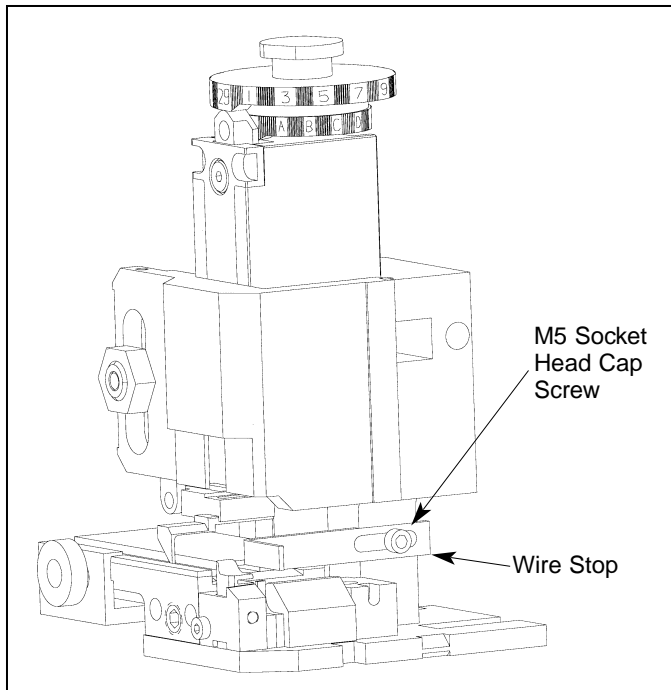

Figure 2.3.9.5 Wire Stop Positioning
- 2.3.9.5 Loosen the M5 socket head cap screw located on the side of the frame. (Refer to Fig. 2.3.9.5 - Wire Stop Positioning)